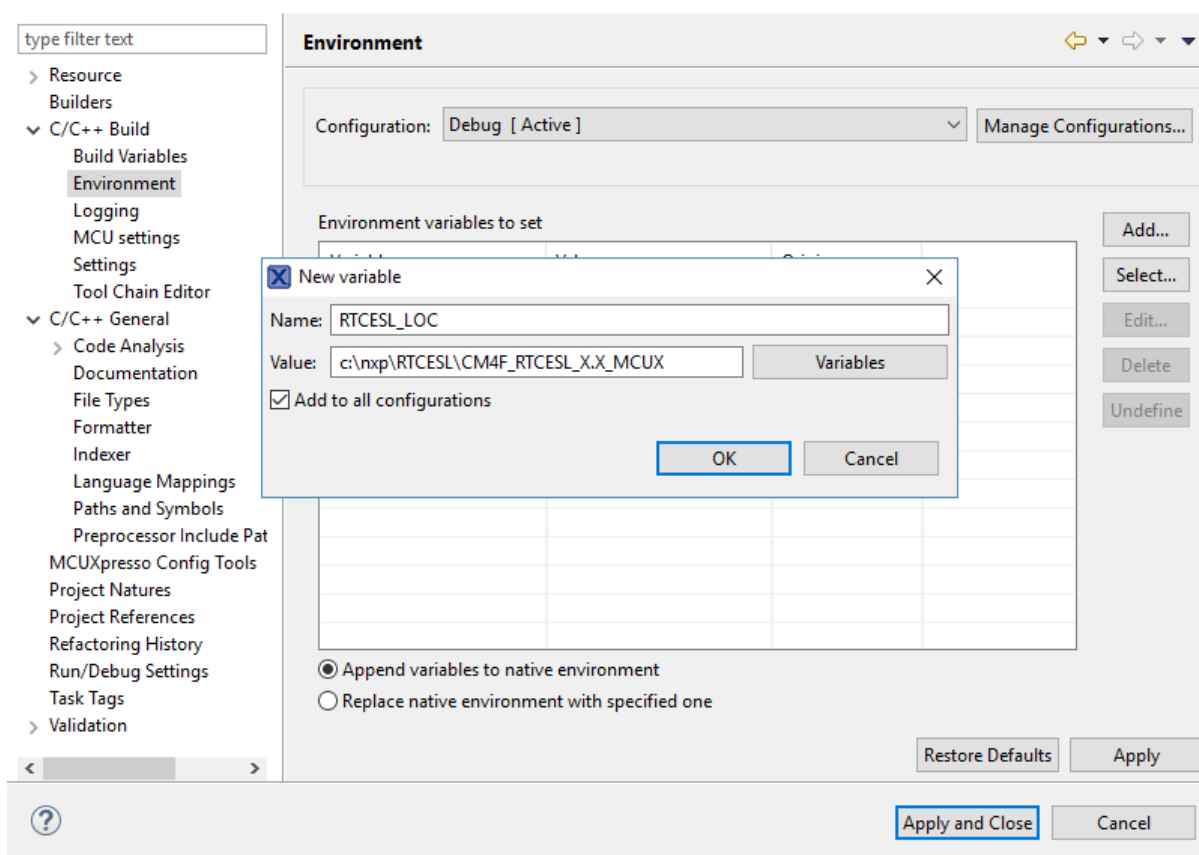

Figure 1-3. Environment variable
8. In the dialog that appears (see Figure 1-3), type this variable name into the Name box: RTCESL_LOC.
10. Tick the Add to all configurations box to use this variable in all configurations. See Figure 1-3.